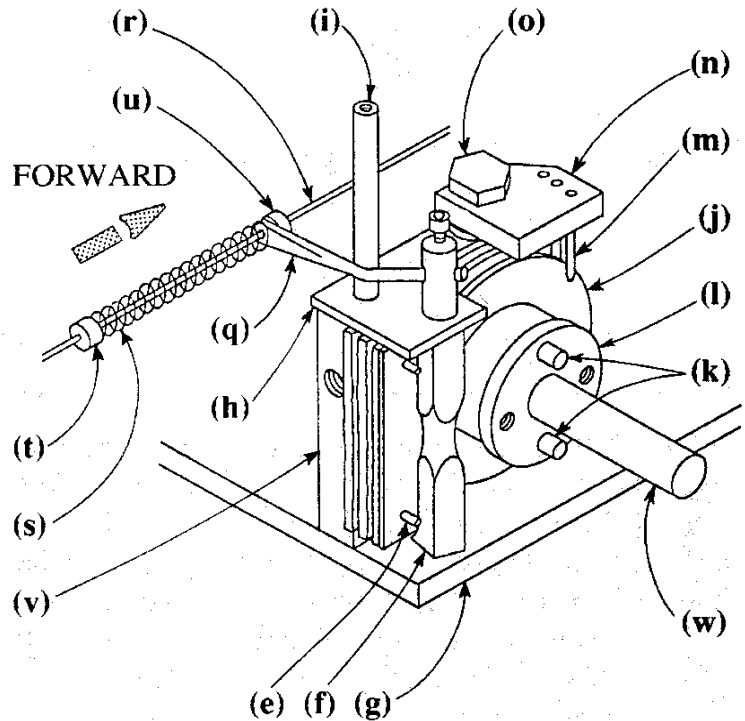
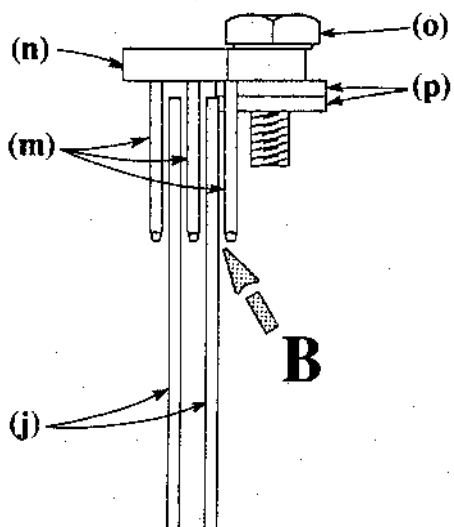

fig. 3
fig. 4
STEP 3 Now place the cam (f) in the hole in the pod chassis plate (g) (fig. 3). Then place the "L" bracket (h) down over the wing tube (i) and the brake cam (f).
STEP 6 Now install the two large 1/8" pins (k) into the gear hub (l) so they extend .240" out of the gear hub on the brake side. Then take the three 1/16" pins (m) and install them in the alignment bracket (n) (fig. 4). Tap them in with a hammer.
STEP 7 Re-install the brake linings (d, b, c), cam (f) and the upper "L" bracket (h). Slip the two rotors (j) between the brake linings. Now install the alignment plate (n) according to fig. 4, place the bolt (o) in it, and add the two washers (p) under the plate (n) and screw the bolt into the bearing block (v) (fig. 3). FINGER TIGHTEN ONLY. Install the brake arm (q).
STEP 9 After putting the axle (w) and gear hub (l) on the car, move the brake arm (q) forward so the brakes are ON. Now line up the alignment plate (n) as in fig. 4 so the middle of the three pins (m) is centered between the two rotors (j). Now tighten down the alignment plate bolt (o). Be careful when
STEP 12 Now at the track, turn on your radio system and move the throttle part-way open. The rear axle and wheel should spin freely. Now open the throttle fully. If there is some brake drag, you'll have to round off a little more of the INSIDE-FORWARD corner of the brake cam (f) (fig. 3) from top to bottom where it touches the steel shoe (a) (fig. 3).